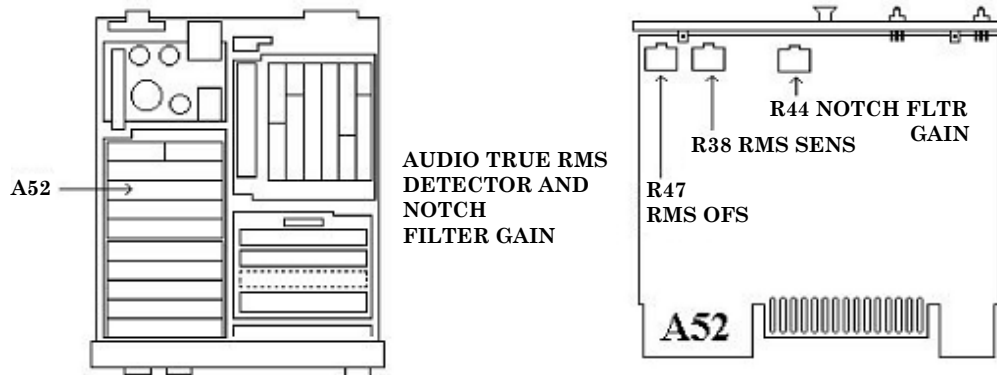

Figure 15. A52 board.
- (1) Reduce all outputs to minimum and disconnect equipment setup.
- (2) Press TI **INSTR PRESET**.
- (3) Remove any cable from **TI MODULATION OUTPUT/AUDIO INPUT**.
- (4) Press TI keys as listed in (a) through (d) below:
- (5) Adjust A52R47 RMS OFS (fig. 15) for a TI indication of between  $-0.0005$  and  $0.0005$ . (R)
- (6) Press TI keys as listed in (a) and (b) below:
- (7) Using a tee connector, connect audio analyzer **OUTPUT HI** to **TI MODULATION OUTPUT /AUDIO INPUT** and digital multimeter **INPUT**.
- (8) Set digital multimeter to read ac volts.
- (9) Set audio analyzer for an output frequency of 2 kHz at a level of 3.9 V.
- (10) Adjust A52R38 RMS SENS (fig.15) for a TI display equal to the indication of the digital multimeter to the third decimal place. (R)
- (11) Change audio analyzer output level to 100 mV.
- (12) Press TI keys as listed in (a) and (b) below:
- (13) Adjust A52R44 NOTCH FLTR GAIN (fig. 15) for a TI display between 99.9 and 100.1%. (R)
- (14) Change audio analyzer output frequency to 800 Hz.
- (15) Press TI keys as listed in (a) and (b) below:
- (16) TI indication should be greater than 98 percent.
- (17) Reduce all outputs to minimum and disconnect equipment setup.